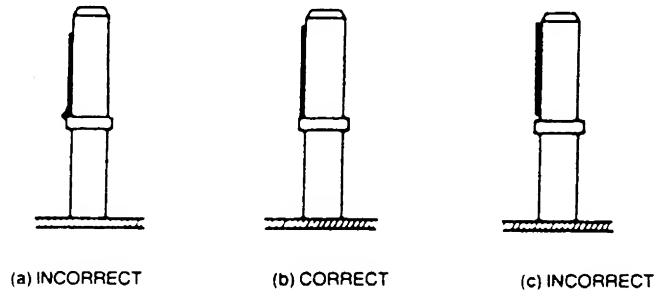

Fig. 4-3
- 4) Slightly turn the Ⓐ screw until the tape edge barely touches the lower part of the TAKE-UP TAPE GUIDE without any curl or wrinkle as shown in Fig.4-3.